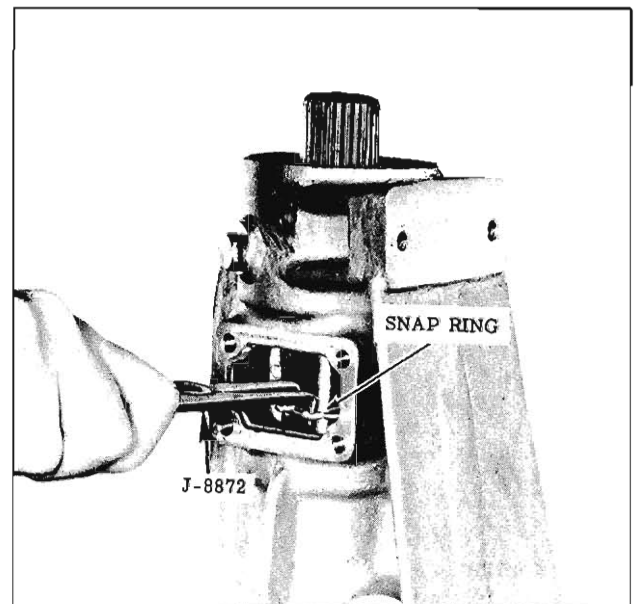

Fig. 6-104 Installing Snap Ring
7. Start rear bearing retainer down over output shaft and install rear output shaft snap ring through access hole and over end of output shaft while retainer is being carefully lowered over governor assembly. (Fig. 6-104)